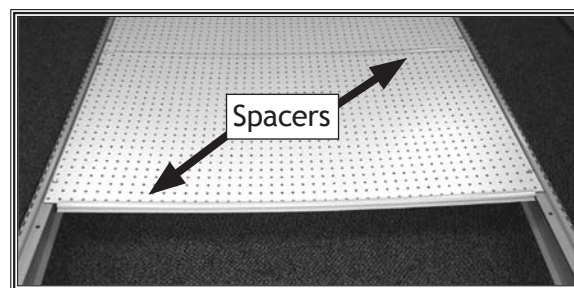

Figure 17. Both spacers aligned on pegboard.
9. Repeat **Step 6** to attach a pegboard spacer to the open edge of the pegboard. The center pegboard should now have spacers on both the top and bottom (see **Figure 17**).